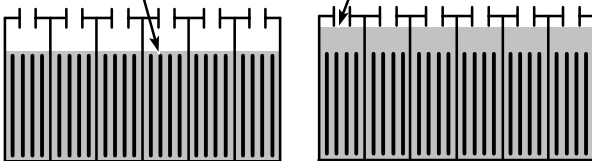

FIG. 55
1. Check battery fluid level frequently to prevent battery damage. The fluid should be at the level shown (Figure 55). Add distilled water if low. **DO NOT OVERFILL**, the fluid may expand and overflow when charging.